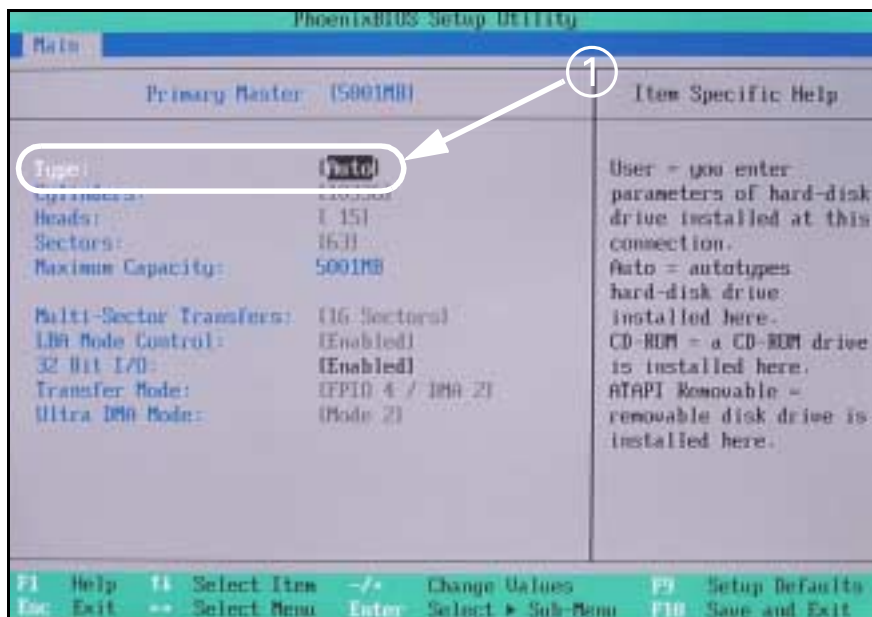

Figure 2-3 Hard drive settings
10) Use +/- keys to select type to Auto (① in Figure 2-3).